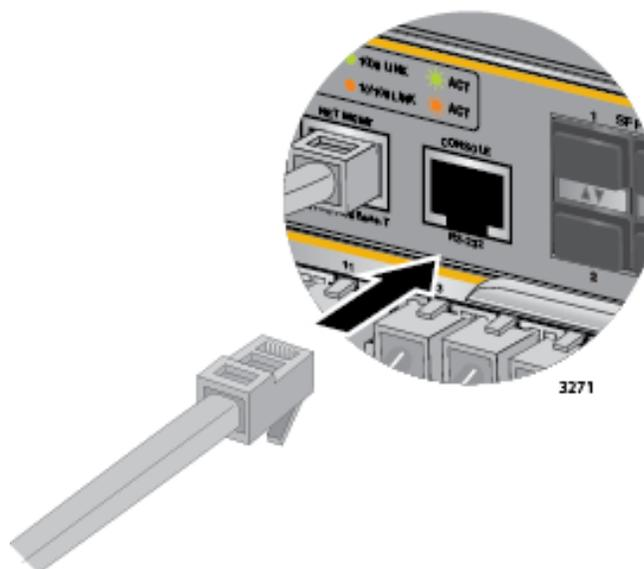

Figure 142. Connecting the Management Cable to the Console RS-232 Port
1. Connect the RJ-45 end of the management card included with the AT-SBx81CFC400 Controller Fabric Card to the Console RS-232 port on the front panel of the AT-SBx81CFC400 Control Card, as shown in Figure 142. If the chassis has two controller cards, you may use the Console RS-232 port on either card to establish a local management session with the chassis.